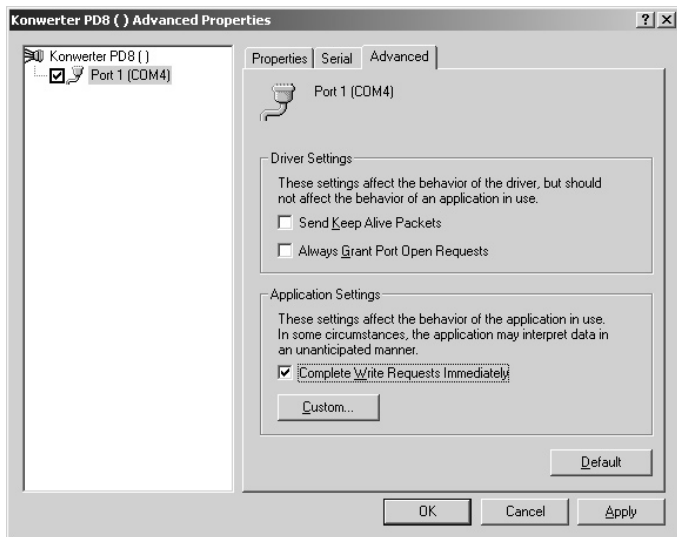

Fig. 13. Advanced Driver settings.
5. Click twice on the converter name to obtain the „ Test properties” window: (fig. 13).
7. In the appeared „...Advanced properties” window click the „Port 1 COMx” branch and next choose the „Advanced „ tab, and mark the option „Complete Write Requests Immediately...”, in accordance with the example on the fig. 13.